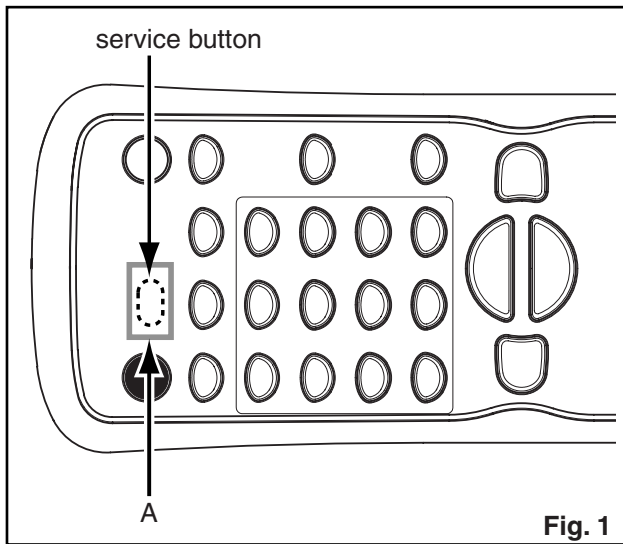

Fig. 1
Cut “A” portion of the attached remote control unit as shown in Fig. 1.
3. Press the service button on the service remote control unit as shown in Fig. 1.